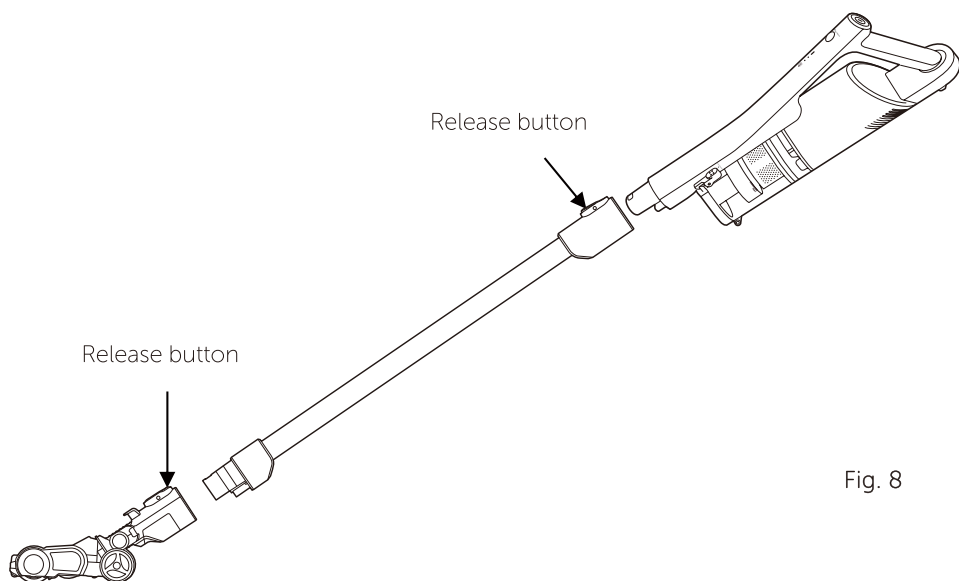

Fig. 8
1. Insert the extension tube onto the body of the vacuum as shown (fig. 8) and push to secure, a click will be heard.
2. Attach the floorhead, crevice nozzle or combination nozzle to the end of the extension tube (fig. 8). Ensure that the accessory clicks into place.